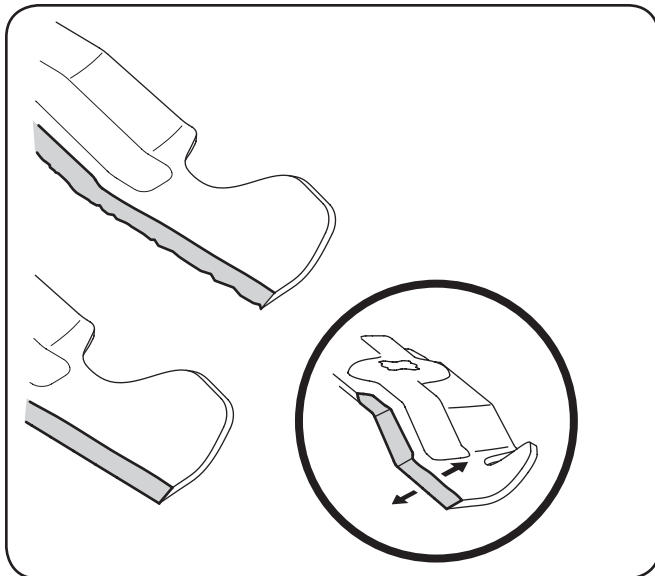

Figure 7-7
- To properly sharpen the cutting blades, remove equal amounts of metal from both ends of the blades along the cutting edges, parallel to the trailing edge, at a 25° to 30° angle. Always grind each cutting blade edge equally to maintain proper blade balance. See Fig. 7-7.